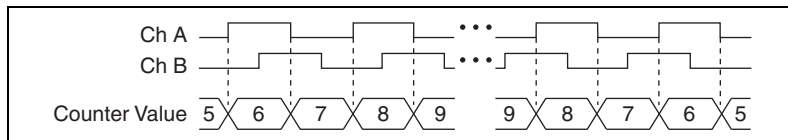

Figure 7-19. X2 Encoding
- **X2 Encoding**—The same behavior holds for X2 encoding except the counter increments or decrements on each edge of channel A, depending on which channel leads the other. Each cycle results in two increments or decrements, as shown in Figure 7-19.